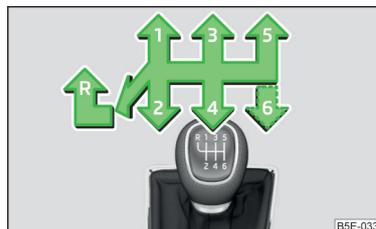

Fig. 129
On the shift lever, the individual gear positions are shown » Fig. 129.
- Move the shift lever fully to the left and then forward into **R** position » Fig. 129.